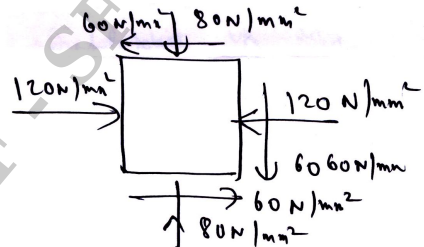

Fig.Q3(b)
- b. The state of stress in a two-dimensionally stressed body is shown in Fig.Q3(b). Determine the principal planes, principal stresses, maximum shear stress and their planes.